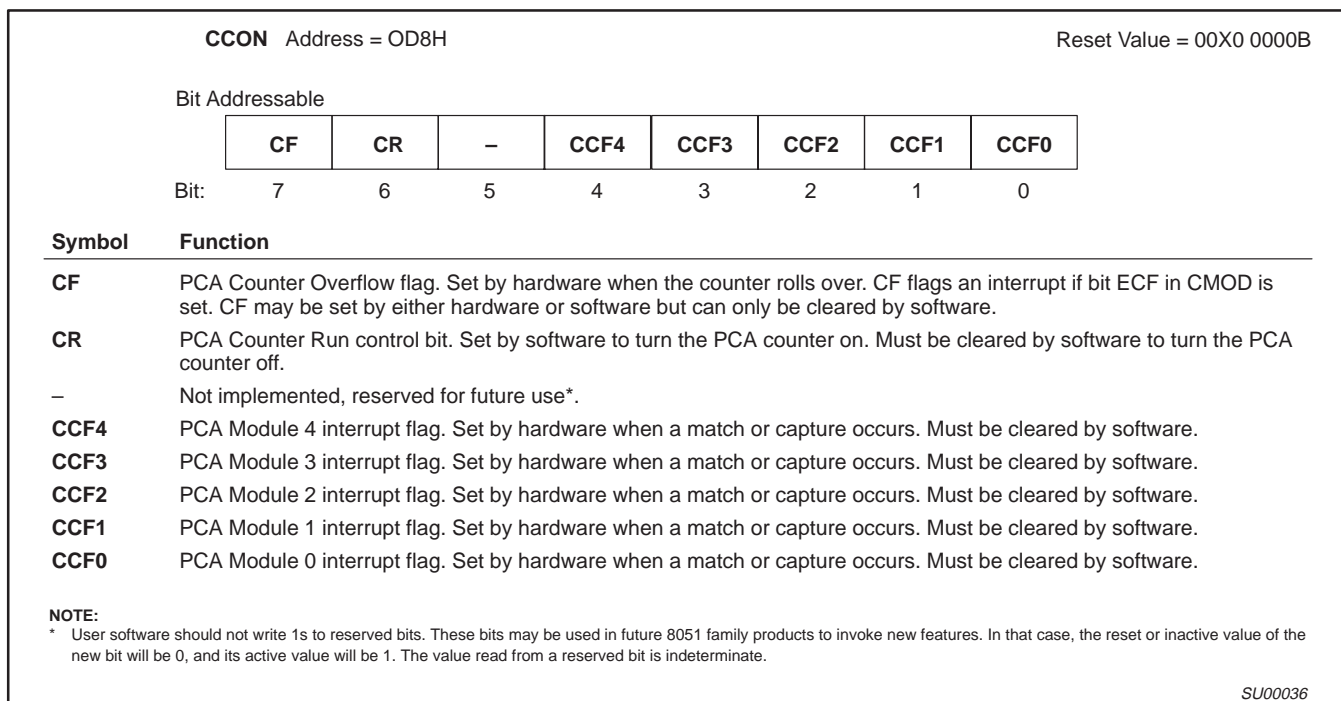

Figure 6. CCON: PCA Counter Control Register
The CCON SFR contains the run control bit for the PCA and the flags for the PCA timer (CF) and each module (refer to Figure 6). To run the PCA the CR bit (CCON.6) must be set by software. The PCA is shut off by clearing this bit. The CF bit (CCON.7) is set when the PCA counter overflows and an interrupt will be generated if the ECF bit in the CMOD register is set, the CF bit can only be cleared by software. Bits 0 through 4 of the CCON register are the flags for the modules (bit 0 for module 0, bit 1 for module 1, etc.) and are set by hardware when either a match or a capture occurs. These flags